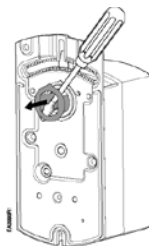

Figure 4. Removing 1/2-inch Ø Shaft Guide for 3/8-in or 5/8-in Shaft.
1. Remove factory installed 1/2-inch guide. See Figure 4.